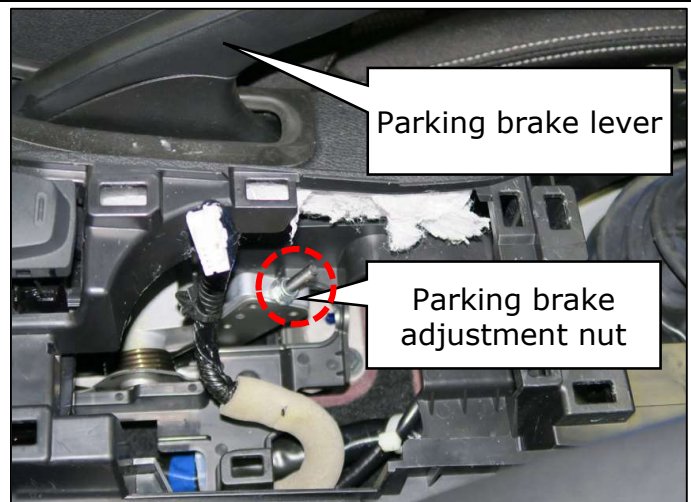

Figure 20
- Using a deep well 10mm socket loosen the parking brake adjustment nut several turns (Figure 20)